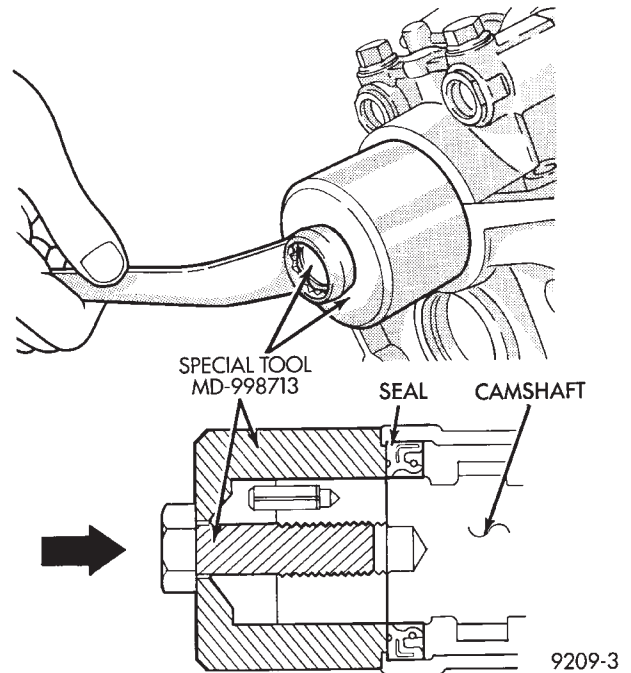
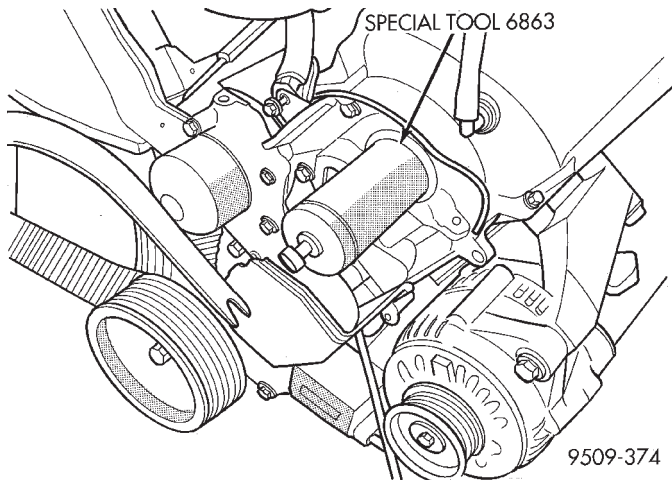

Fig. 69 Camshaft Oil Seal Installation—Right Cylinder Head
Fig. 70 Camshaft Oil Seal Installation—Left Cylinder Head
- (1) Apply light coat of engine oil to the camshaft oil seal lip.
- (2) Install the oil seal using Special Tool MD998713 or 6863 camshaft oil seal installers (Fig. 69) and (Fig. 70).